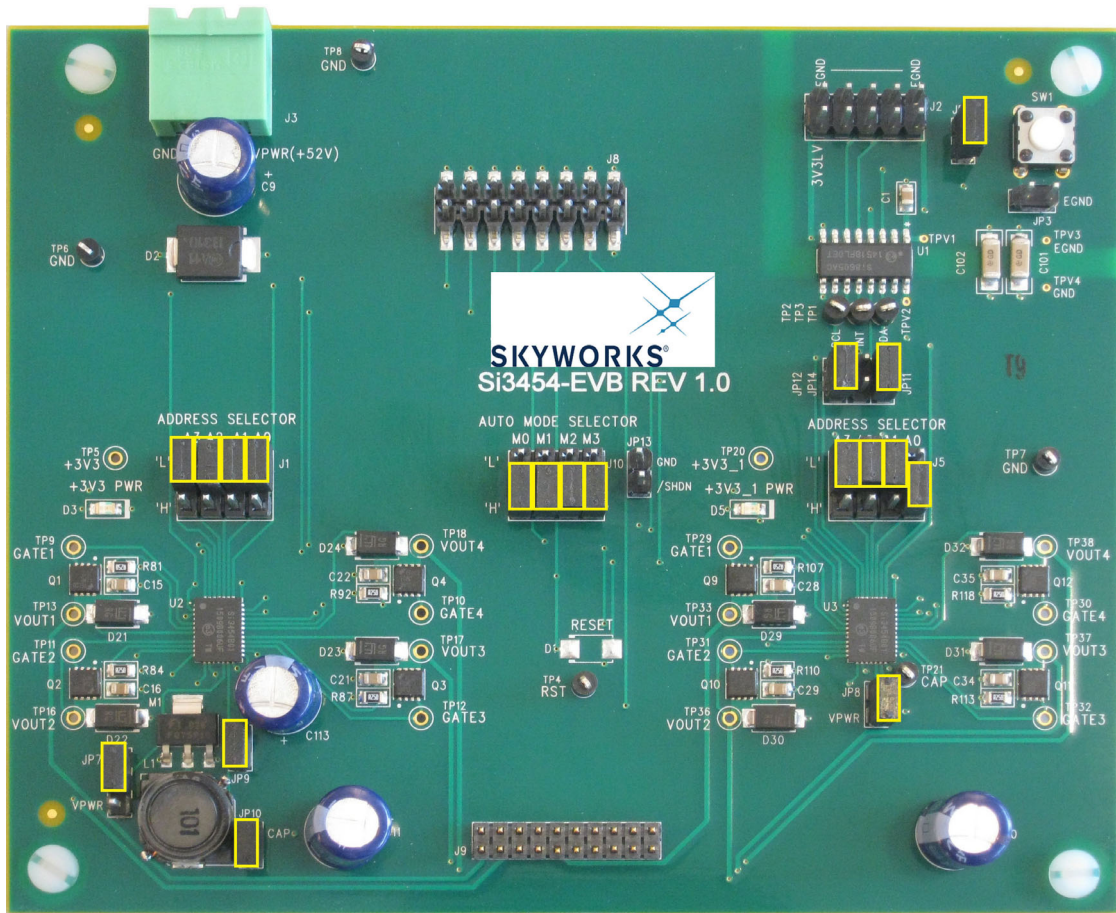

Figure 6. Physical Jumper Placement
1. Verify that Evaluation Board jumper placements are correct, according to Figure 18 schematic, Figure 6. “Physical Jumper Placement” and Table 2. On the Connector Board, the default condition occurs when all jumpers are installed.
4. Connect a 52 V power supply to J3. When the high voltage supply is turned on, the power LED D3 will indicate that the on-board generated 3.3 V logic supply is active. The power LED location is indicated by green circles in Figure 6. “Physical Jumper Placement”.